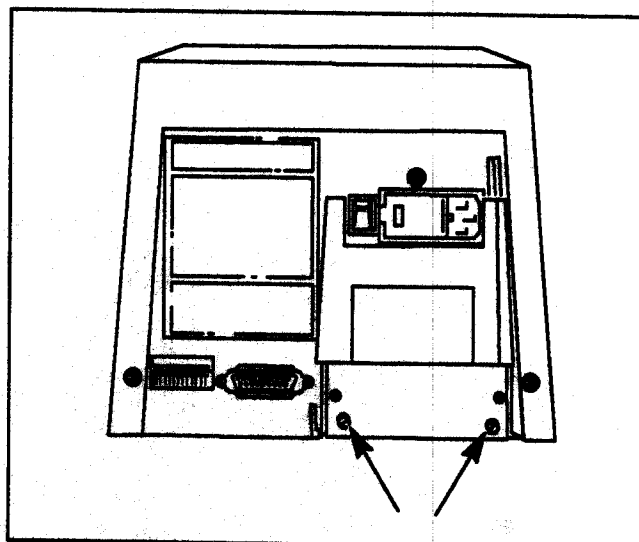

Figure 6-11. Memory Expansion Module Removal
- a. Loosen the two module thumbscrews. See Figure 6-11.